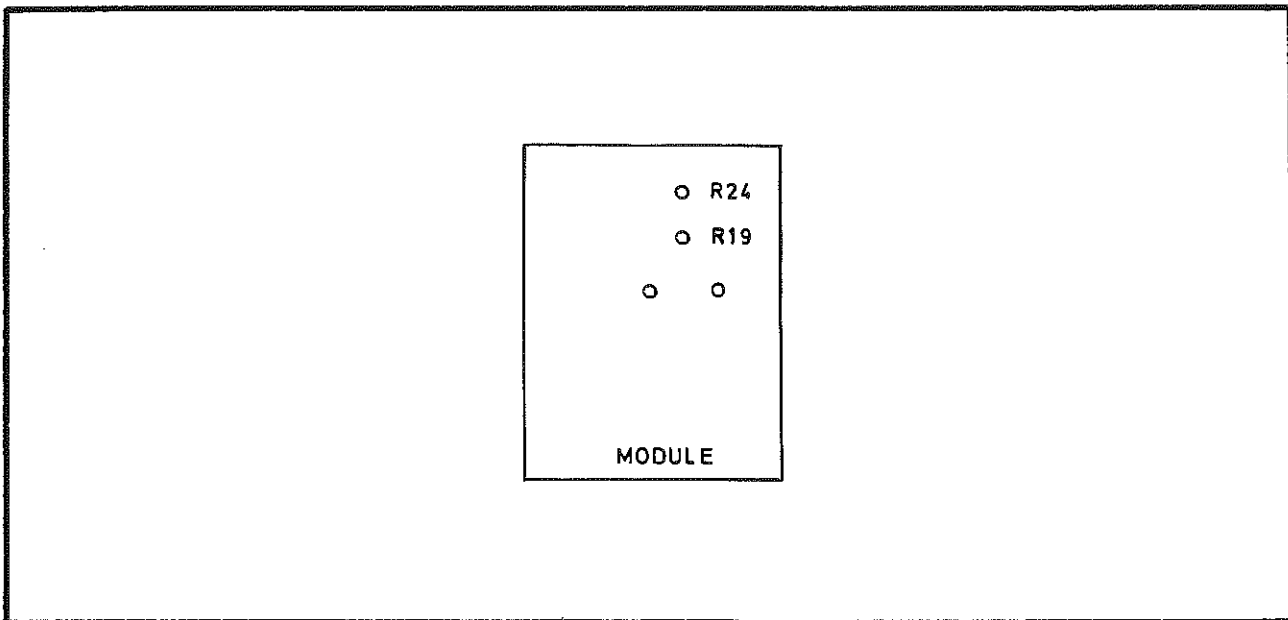

Fig 7.9 Location of R24 and R19
- 31 Set R24 fully counter-clockwise and R19 to its mid-position. R24 and R19 are located inside the screened module on the motherboard 19-1160, as shown in Fig 7.9.
- (1) Switch the 1998/1999 on. Select FREQ A and .
- (2) Select $50\ \Omega$ impedance and disable the filter on the A channel.
- (3) Set the SENSITIVITY control fully clockwise and select X1 attenuation.
- (4) Press the RESOLUTION key five times, until 000 is displayed.